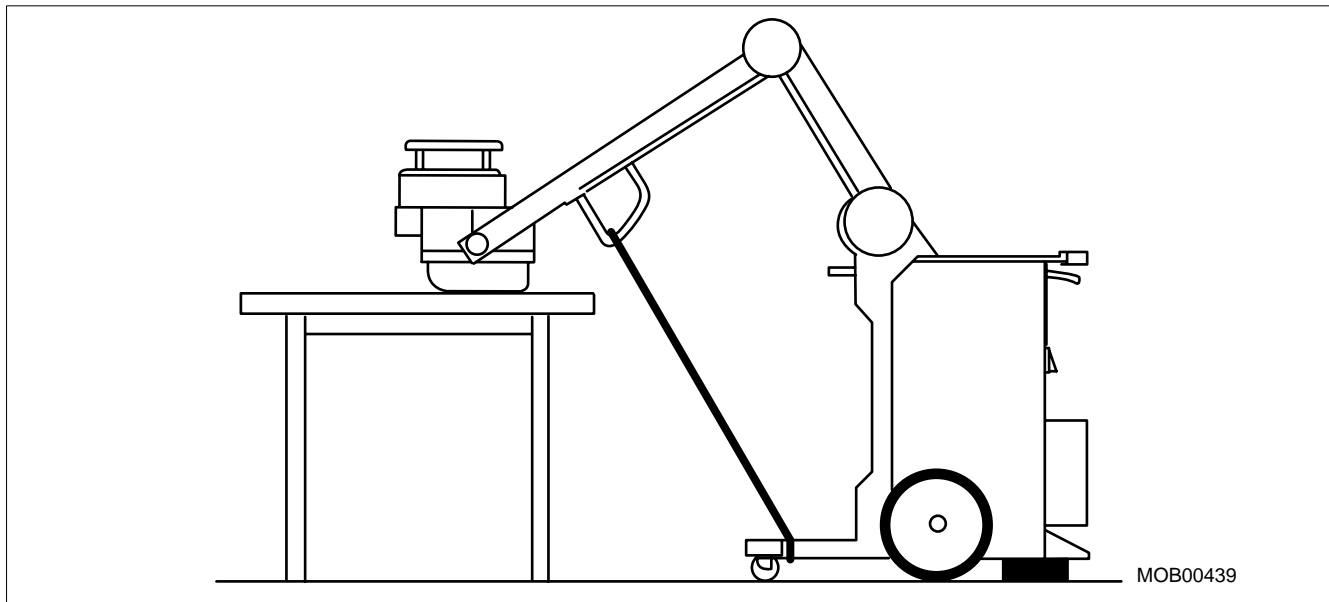

Fig. 17
- Position the unit with the single tank resting on a table (Fig. 17).